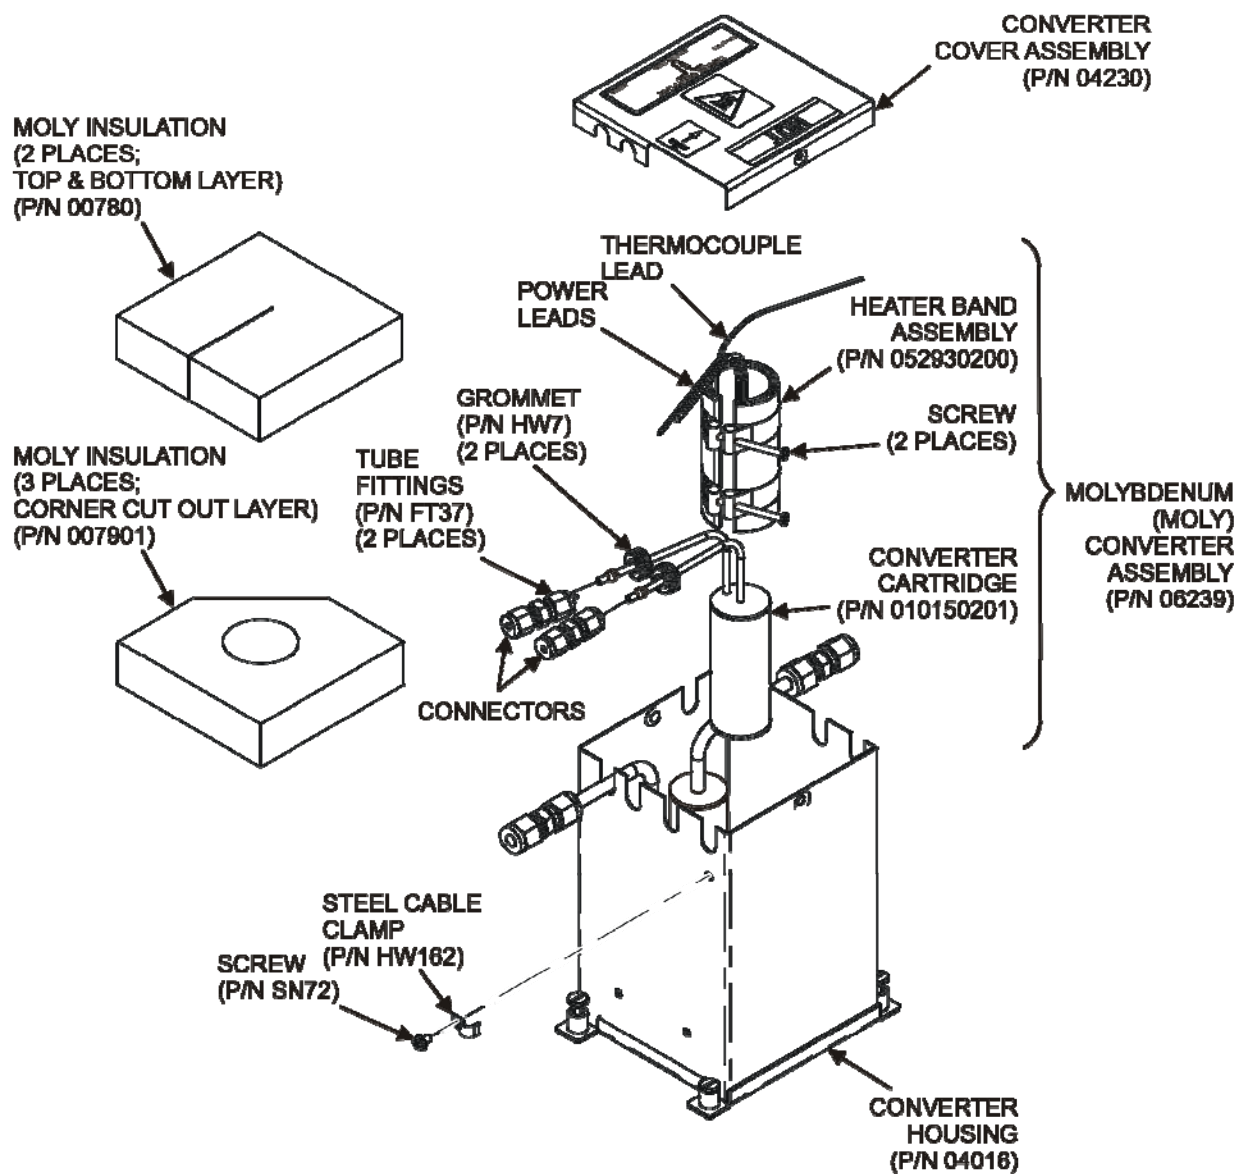
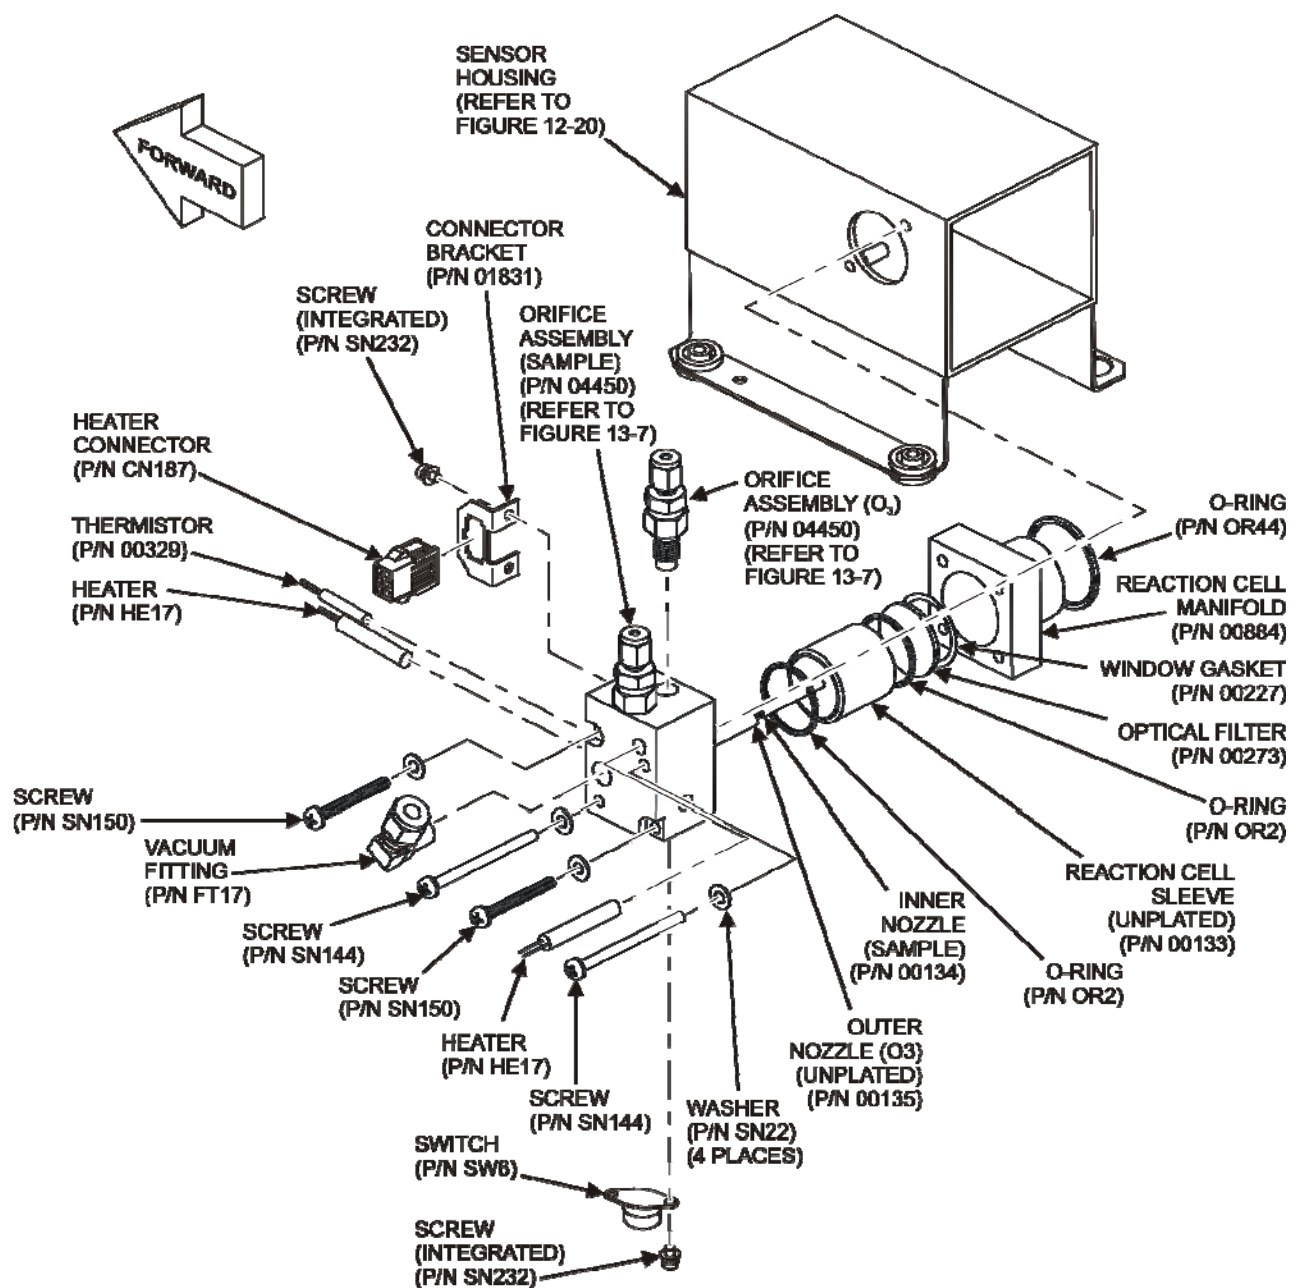

Figure 11-5: NO2 Converter Assembly
Figure 11-6: Reaction Cell Assembly
The NO2 converter is located in the center of the instrument, Figure 3-5 for the location, and Figure 11-5 for the assembly.
1. Turn off the instrument power and vacuum pump. Refer to Figure 11-6 for the following procedure.
2. Remove the analyzer cover and locate the reaction cell (Figure 11-5 and Figure 11-6).
4. For orifices on the reaction cell (Figure 11-6): Unscrew the orifice holder with a 9/16" wrench.